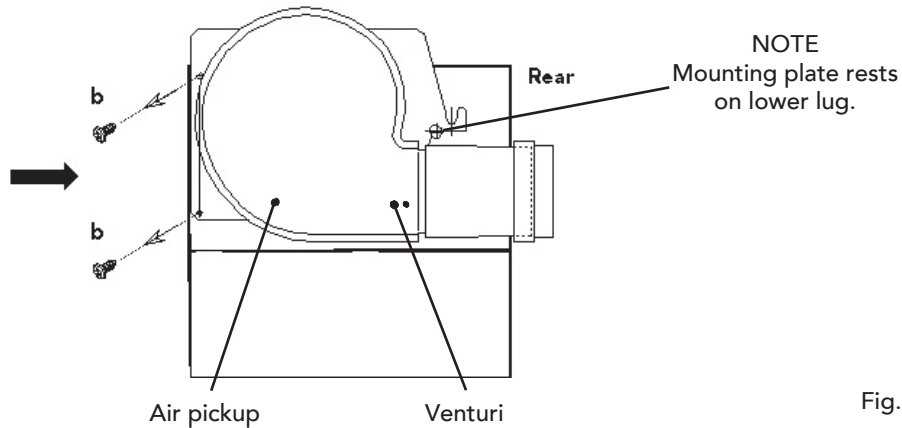

Fig. 21h
9. Make sure the inner flue is fully engaged in the flue terminal, Re-attach the fan as shown in fig 21h. Secure bottom of boiler using two screws and washers provided.